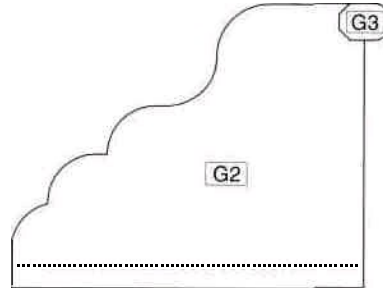

Fig. 5: Side visor with footrest
Step 29: Bend the glue tab of the right side visor [G2, sheet 7] to the rear and stick footrest 1 [G3, sheet 7] with its grey face on to the marked place on the black rear of the side visor (Fig. 5). So on one edge of the side visor it is flush and on the other edge the gold-printed semicircular end protrudes beyond the edge. Then stick the right visor with its tab on to the right-hand edge of the top cover so that at the rear it ends exactly where the top cover ends, and at the front it just reaches the bend of the cover's hinge.